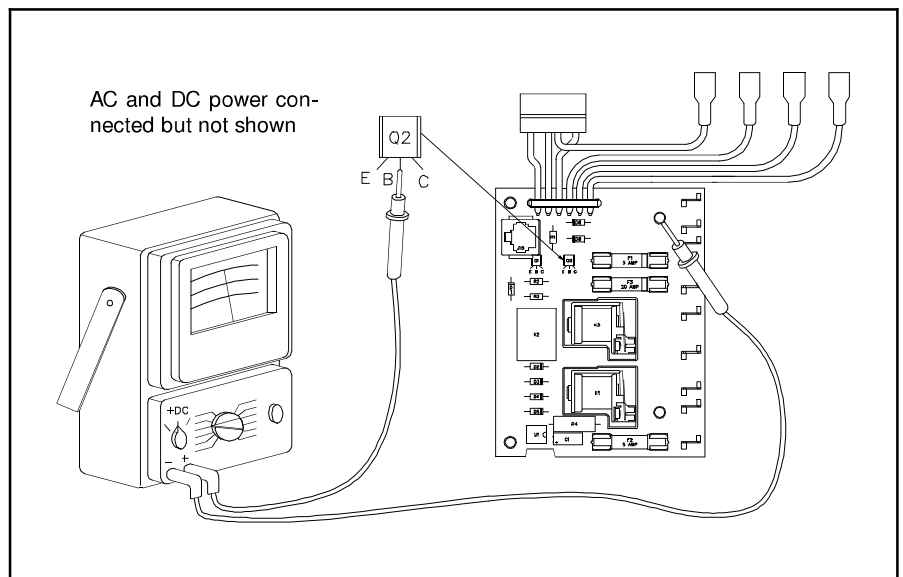

Figure 11.27 12 Volt Check at Q2 Base
14. With Mode Selector at AUTO and 12 Volt present at the emitter of Q2, check for 10 volts DC at the base of transistor Q2 on the Power Supply as shown by Figure 11.27. If you do not have 10 volts the Power Supply is defective and must be replaced.